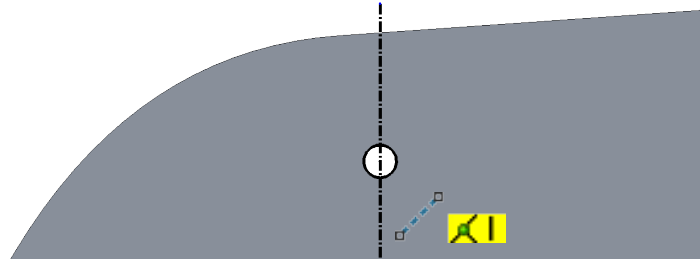

Fig. 69
Step 6. Sketch a **vertical centerline coincident**  with the center of converted circle, **Fig. 69**.